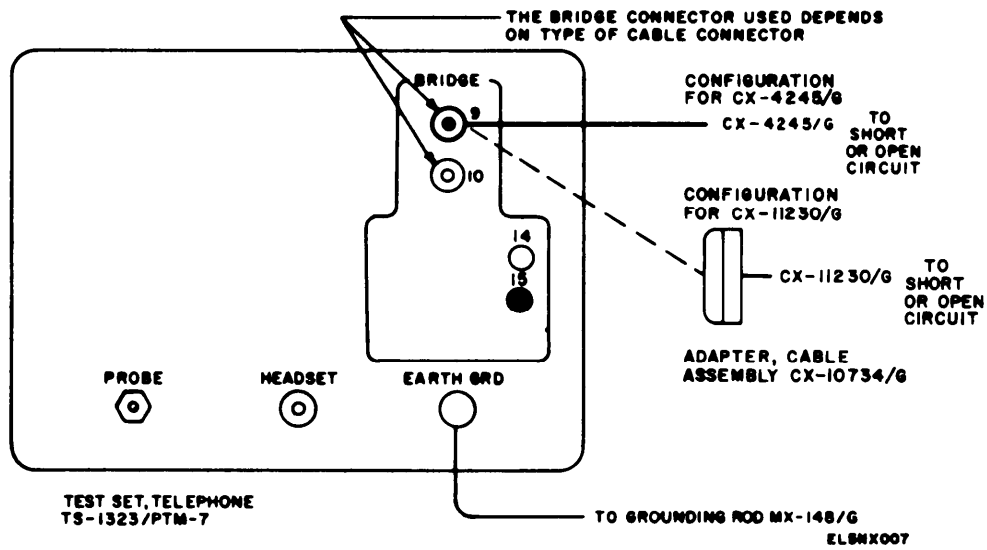

Figure 3-9. Normal CX-4245/G connections for bridge-circuit operation.
(*a*) Connect the suspected CX-4245/G to the TS-1323/PTM-7 as shown in figure 3-9 or 3-10.
- (a) Connect the suspected CX-4245/G to the TS-1323/PTM-1 as shown in figure 3-9 or 3-10.